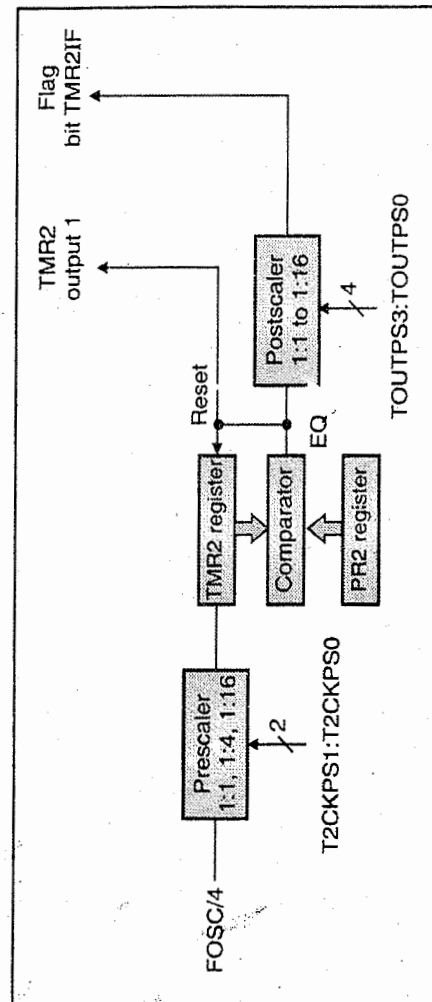

Fig. 7.5.1 : Timer 2 block diagram
- Fig. 7.5.1 shows the block diagram of Timer 2.
- As shown in Fig. 7.5.1  $\frac{f_{osc}}{4}$  is the clock source for Timer 2. As no external source is used for Timer 2, Timer 2 cannot be used as a counter.